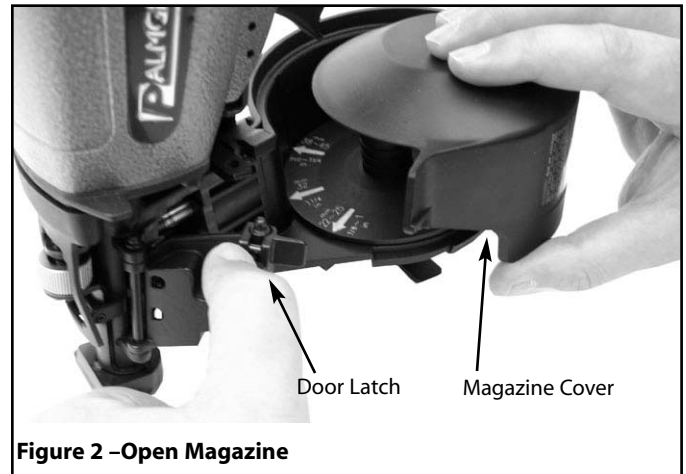

Figure 2 –Open Magazine
- Push the door latch down and swing the door open; then swing the magazine cover open (see Figure 2).